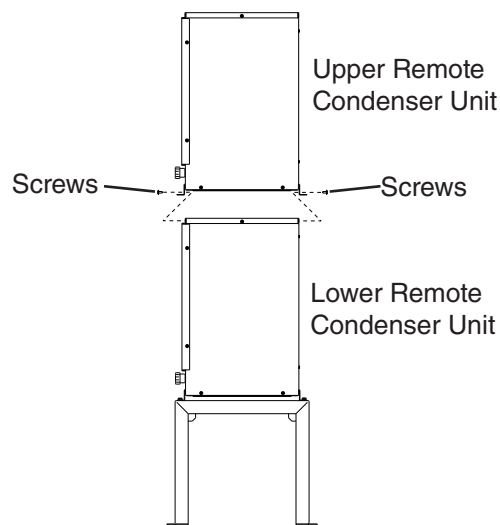

Fig. 15
- 2) Place the upper remote condenser unit on top of the lower. See Fig. 15.